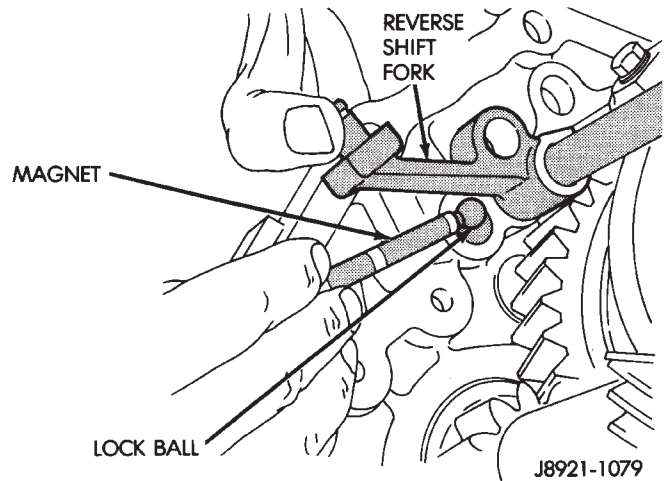

Fig. 94 Install Fifth Gear Shift Rail Lock Ball
(21) Install the fifth gear shift rail lock ball in the intermediate plate (Fig. 94).
(22) Install the fifth gear shift rail into the intermediate plate.